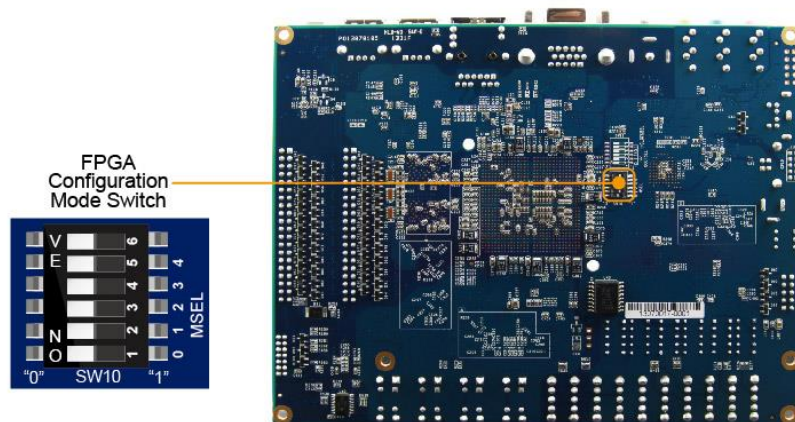

Figure 1-3 MSEL[4:0] = 00000
2. Set MSEL[4:0] = 00000, as shown in **Figure 1-3**.